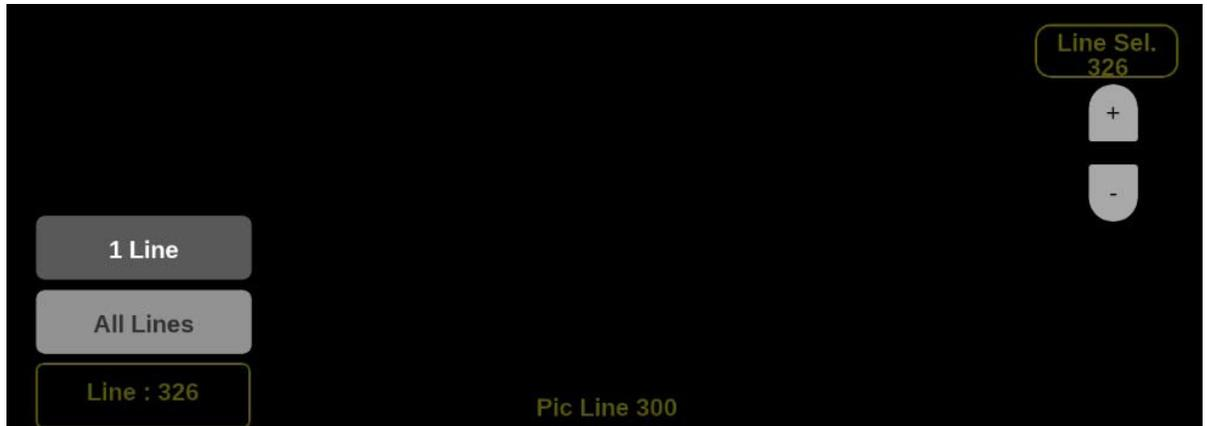

Figure 91: Waveform on-screen tools – Line Selects
If **1 Line** is selected, the display only shows results for the selected line in the picture. The line can be selected using the on-screen tools. (See Line Select function.) Or the line can be selected directly on the Picture. (See Figure 91.)
1. Select the **Lines** button at the bottom of the application. (See Figure 91.)